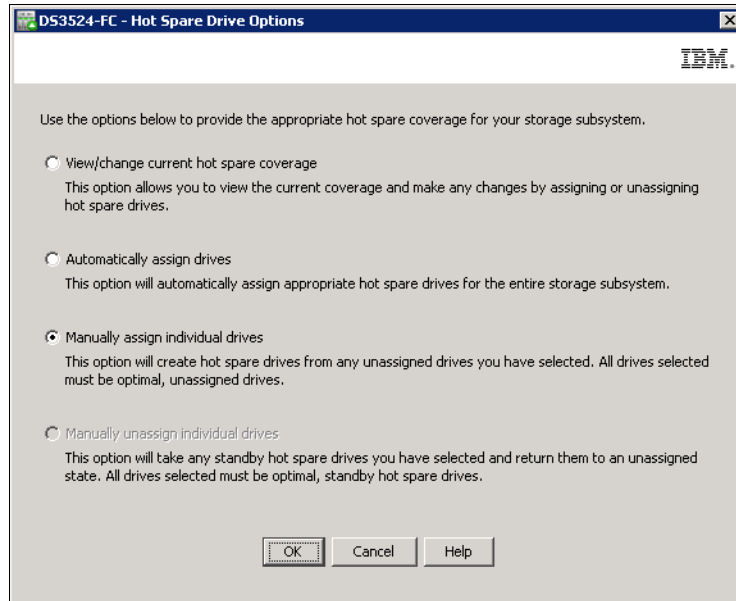
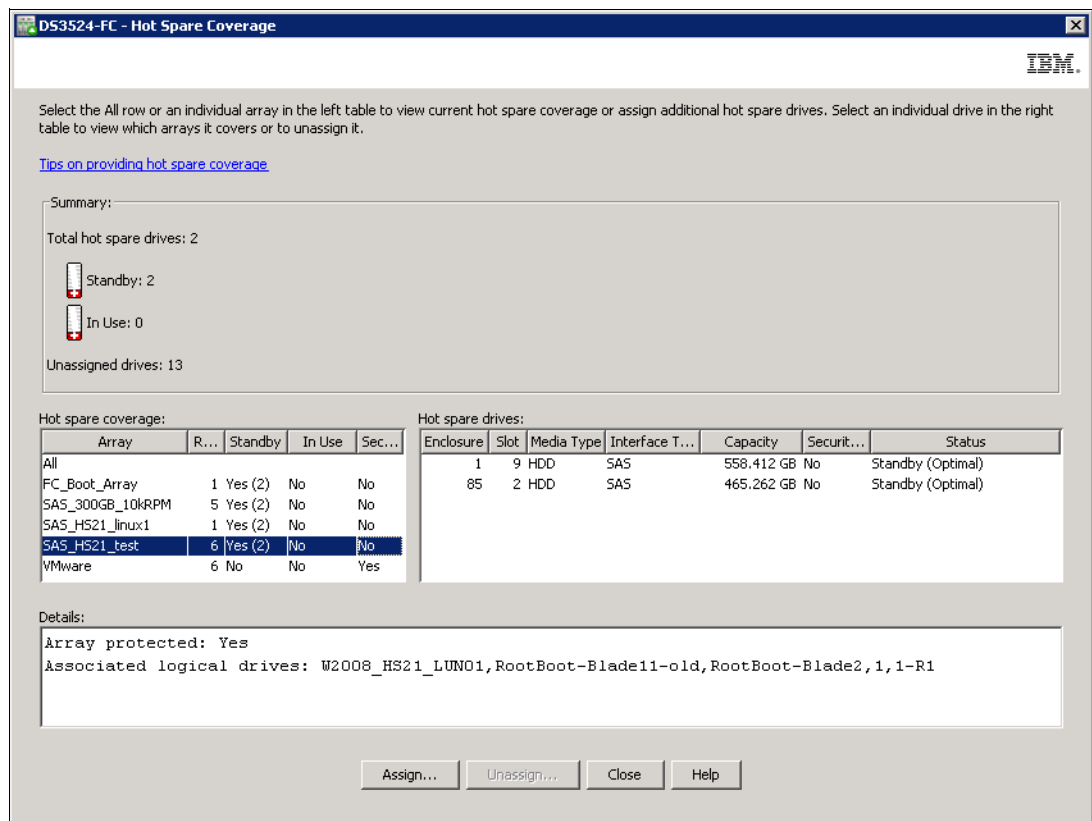

Figure 10-8 Hot Spare Drive options
Figure 10-9 View/Change hot spare coverage
To start the configuration of a new hot spares from the Physical pane, select an unconfigured disk drive that you plan to use as hot spare disk, right-click it, and select **Hot Spare Coverage**. The window shown in Figure 10-8 on page 264 opens.
- ▶ Select an unconfigured disk drive that you plan to use as hotspare disk, right-click it, and select **Hot Spare Coverage**. The window shown in Figure 10-8 displays with the option **Manually assign individual drives** already preselected. Click **OK** and the unassigned drive is defined as a hot spare.
- ▶ Select a hot spare disk drive that you plan not to use as hotspare disk any more, right-click it, and select **Hot Spare Coverage**. The window shown in Figure 10-8 display with the option **Manually unassign individual drives** already preselected. Click **OK**, confirm by typing yes in next window, and the former hot spare drive is an unassigned disk drive again.
In the Hot Spare Drive Option window (Figure 10-8 on page 264) select the **View/change hot spare coverage** option. The Hot Spare Coverage window similar to Figure 10-9 appears.